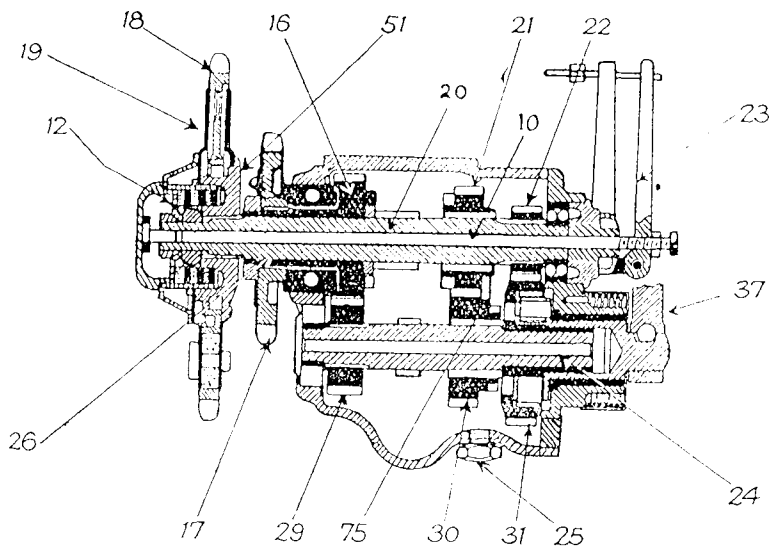

FIG. 43. SECTIONAL VIEW, SHOWING ARRANGEMENT OF STURNEY-ARCHER 3-SPEED 1930-33 LIGHTWEIGHT GEAR-BOX AND CLUTCH
The Sturmey-Archer Three-speed Gear-boxes (Fitted to Models T5, TB6, TB8, T9). Referring to the sectional view at Fig. 43, the clutch body (51) is keyed to the tapered end of the mainshaft, and the clutch sprocket, which becomes locked to the body by the spring (12), pressing the driven plates (19) against the friction inserts of the clutch sprocket. Thus so long as the engine is running and the clutch lever (23) is not causing the mainshaft thrust plunger (10) to release the spring pressure, the mainshaft (20) rotates on its ball bearings. On the clutch lever side a double-row ball bearing is used, while on the sprocket side a heavy single-row thrust ball bearing is used. Interposed between this and the mainshaft is a sleeve (26), to which are fixed the top gear dog wheel (16) and the gear-box sprocket (17). This sleeve is free to rotate on the mainshaft. The top gear dog wheel is in constant mesh with the layshaft driving pinion (29) keyed to the layshaft, so that whenever the layshaft is in motion (top gear excepted), the sleeve and gear-box sprocket transmitting the drive also rotate at a speed equal to layshaft speed \times ratio of the diameters of the two meshing pinions. Keyed to the end of the mainshaft opposite the clutch is the bottom gear pinion (22), and free to rotate upon the layshaft and in constant mesh with it is the layshaft driven dog wheel (31), which has a ratchet on its outer face, with
which the kickstarter pawl engages, thus rotating the clutch sprocket direct *via* the fixed low gear pinion and this dog wheel. The mainshaft is splined for a considerable portion of its length, the unsplined part being that adjacent to the low gear pinion. Similarly, the layshaft is splined, except adjacent to the driving pinion. Two sliding dog wheels—one on the mainshaft and one on the layshaft—are simultaneously moved by a single striking plate (75, Fig. 43) and two forks, whose endwise movement is controlled by a lever arm engaging a ball end; positive indexing of the gear positions is provided by a spring-loaded plunger engaging four small circular recesses in one of the fork sides. The two sliding dog wheels are responsible for connecting the primary and secondary drives, and providing the three speeds which are obtained as follows.
Top Gear (Third). The mainshaft and layshaft sliding dog wheels are moved to the extreme left (Fig. 43), until the mainshaft sliding dog wheel interlocks with the top gear dog wheel. The layshaft sliding dog wheel thus automatically becomes free to idle on the layshaft non-splined portion, while the top gear dog wheel, gear-box sprocket, and clutch sprocket rotate as a single unit giving a direct or top gear drive.
Neutral. The sliding dog wheels are moved a trifle farther to the right until the mainshaft sliding dog wheel leaves the mainshaft splines and simply idles on the mainshaft, causing no rotation whatever of the layshaft. Fig. 43 shows neutral position.